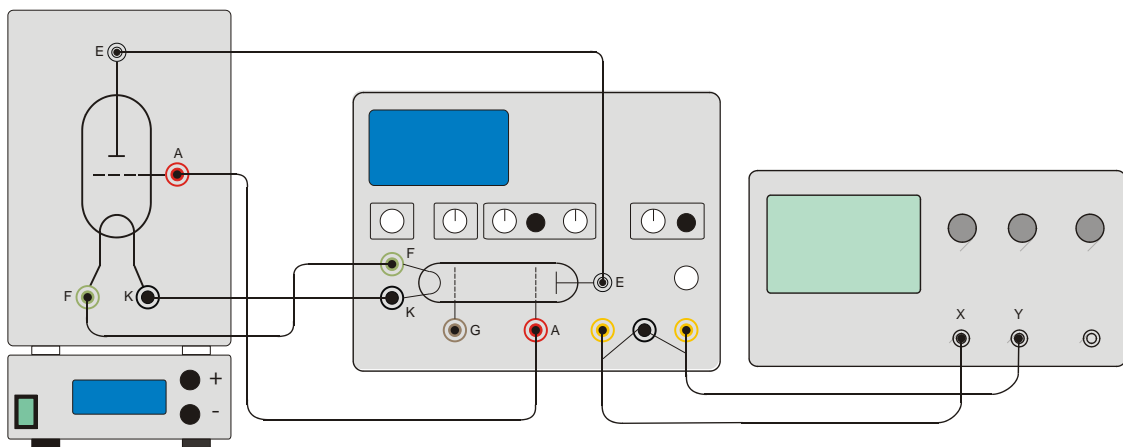

Fig. 2: Experiment set-up for Franck-Hertz tube with Hg filling
- Connect terminals "A", "F" and "K" (refer to fig. 2).